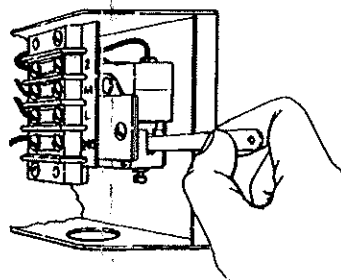

Fig. 3 — Illustration of the 836-61 test tool in checkout position.
3. Insert a screwdriver or test tool (836-61 (available on request) into slot and under the trip arm as shown in Fig. 3.